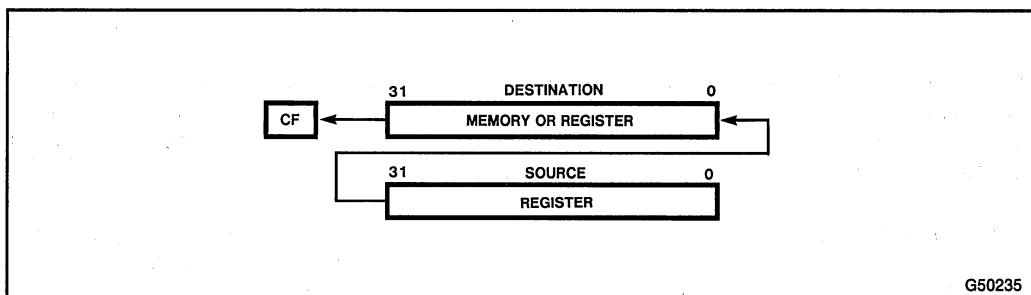

Figure 3-9. SHLD Instruction
**SHLD (Shift Left Double)** shifts bits of the destination operand to the left, while filling empty bit positions with bits shifted out of the source operand (see Figure 3-9). The result is stored back into the destination operand. The source operand is not modified.